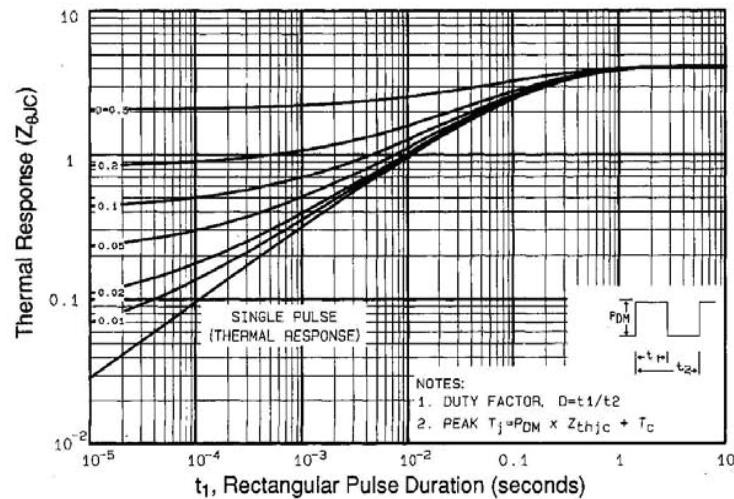

Fig. 11 - Maximum Effective Transient Thermal Impedance, Junction-to-Case
- Repetitive rating; pulse width limited by maximum junction temperature (see fig. 11)
a. Repetitive rating; pulse width limited by maximum junction temperature (see fig. 11)